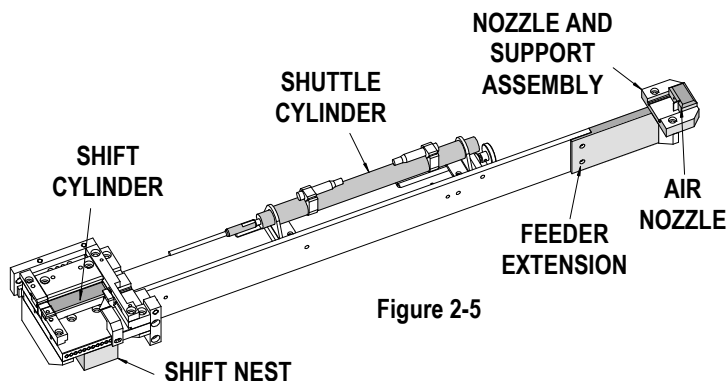

Figure 2-5
Changing From Molex 25 inch Tubes To New Global Packaging Systems (564 mm) Tubes and Back (See Figure 2-5)
3. **"CONN. SHUTL"** (See Figure 2-5 and 2-10) This button operates the shuttle cylinder. Pressing it once extends the cylinder rod forward pushing the connectors into the termination nest. Pressing it the second time, retracts the cylinder rod to the rest position. (Interlocks: Terminal support must be down and insert cylinder must be retracted.)